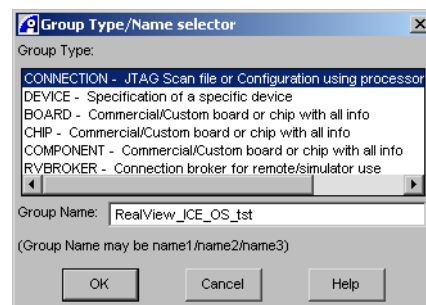

Figure 3-3 Specifying a new CONNECTION group
7. This displays the Group Type/Name selector dialog box, shown in Figure 3-3.